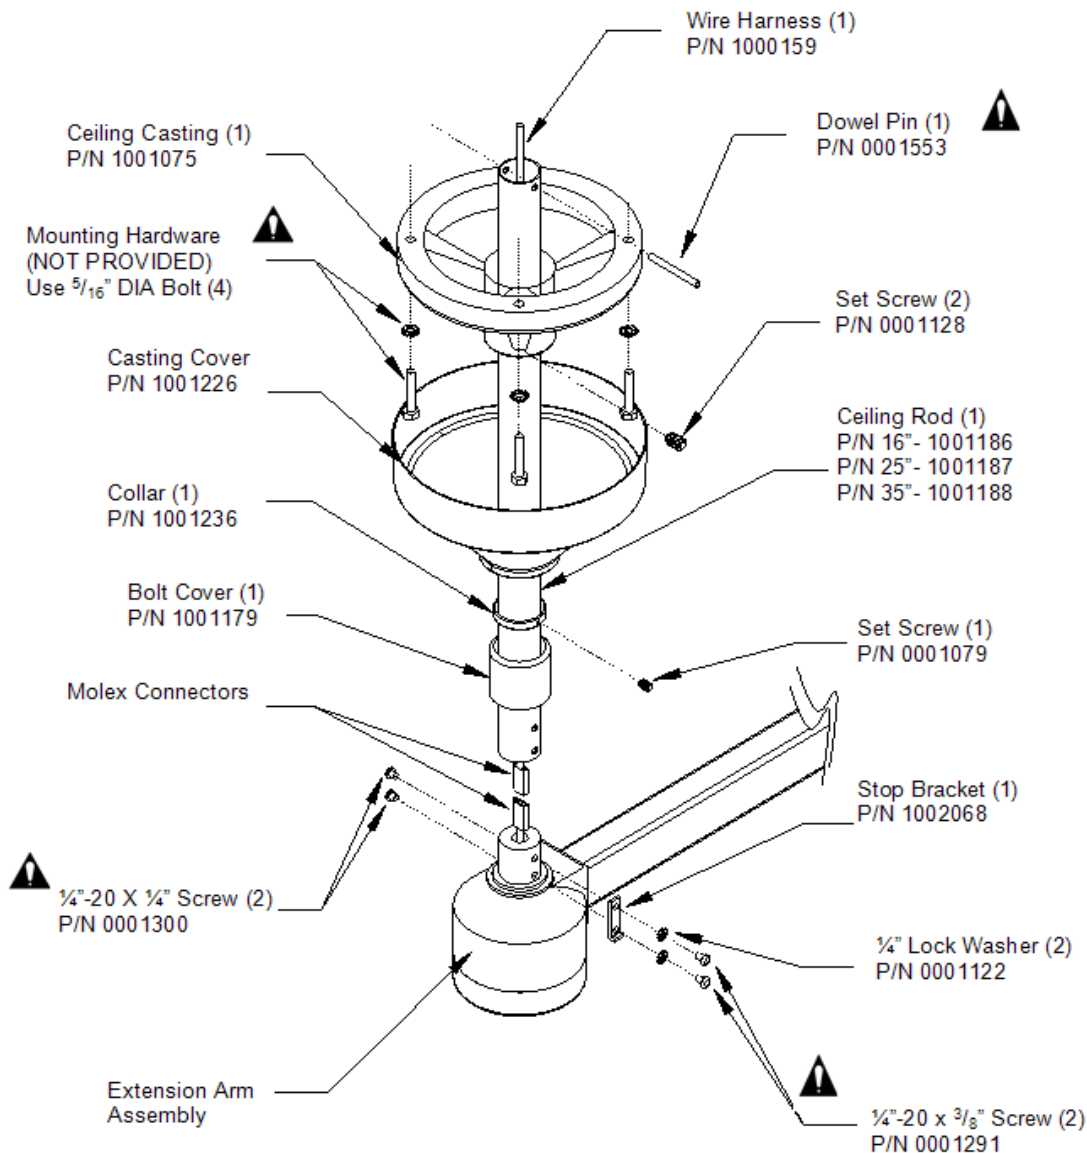

Figure 7. Single Ceiling Mount Installation
- Insert the ceiling rod up through the ceiling casting until the hole in the ceiling rod becomes visible (see Figure 7. Single Ceiling Mount Installation). Insert the dowel pin into the hole in the ceiling rod and lower the rod in the ceiling casting, making sure the pin is seated securely in the indentation on the ceiling casting. Securely tighten the two set-screws located in the casting.
- Slide the bolt cover up onto the ceiling rod as shown in Figure 7, then raise the extension arm to the ceiling rod and plug the Molex connectors together. Push the wire into the ceiling rod while inserting the transformer housing into the rod. Secure the housing to the ceiling rod using the four supplied bolts as shown. Two 1/4"-20 x 1/4" screws must be installed on one side of the ceiling rod. Two 1/4"-20 x 3/8" screws and lock washers must be used to mount the stop bracket on the other side of the rod. Be sure the bend on the stop faces down, towards the arm.